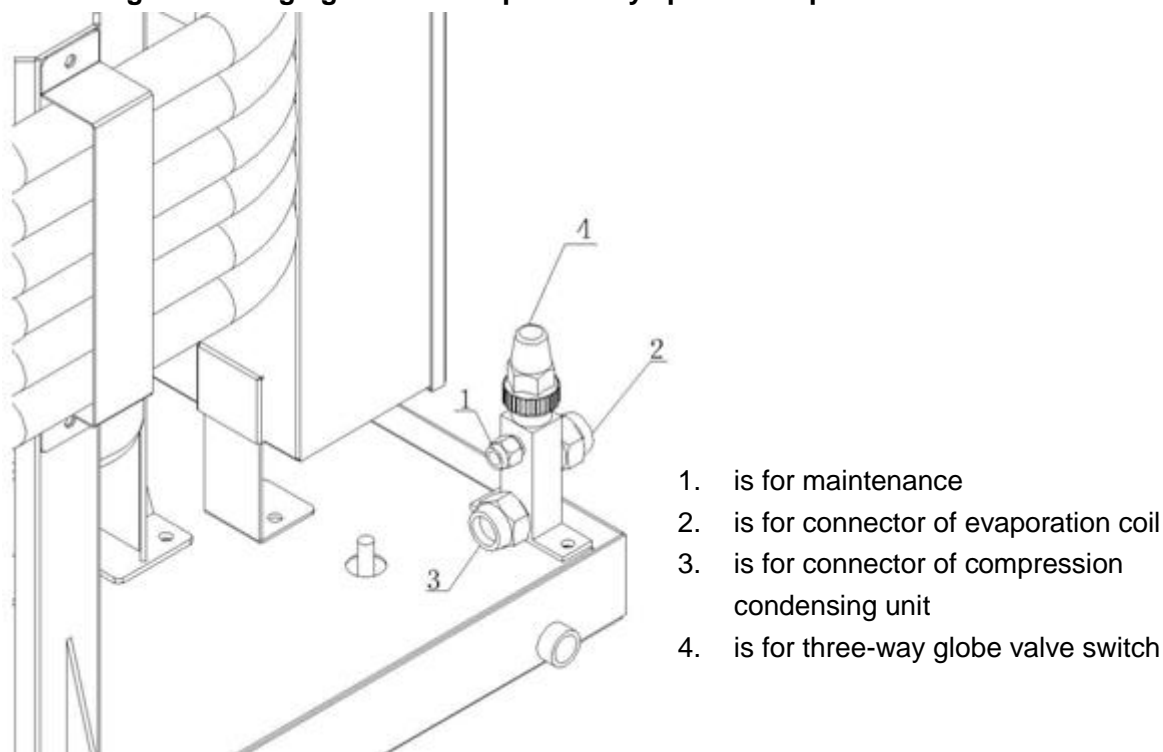

Figure 2-4 Three-way valve of split air conditioner
2.5.1 As shown in Figure 2-4: when "valve 4" rotates to the end clockwise, "maintenance port 1" to "2" is open, "2" to "3" is closed; when "valve 4" rotates to the end anticlockwise,